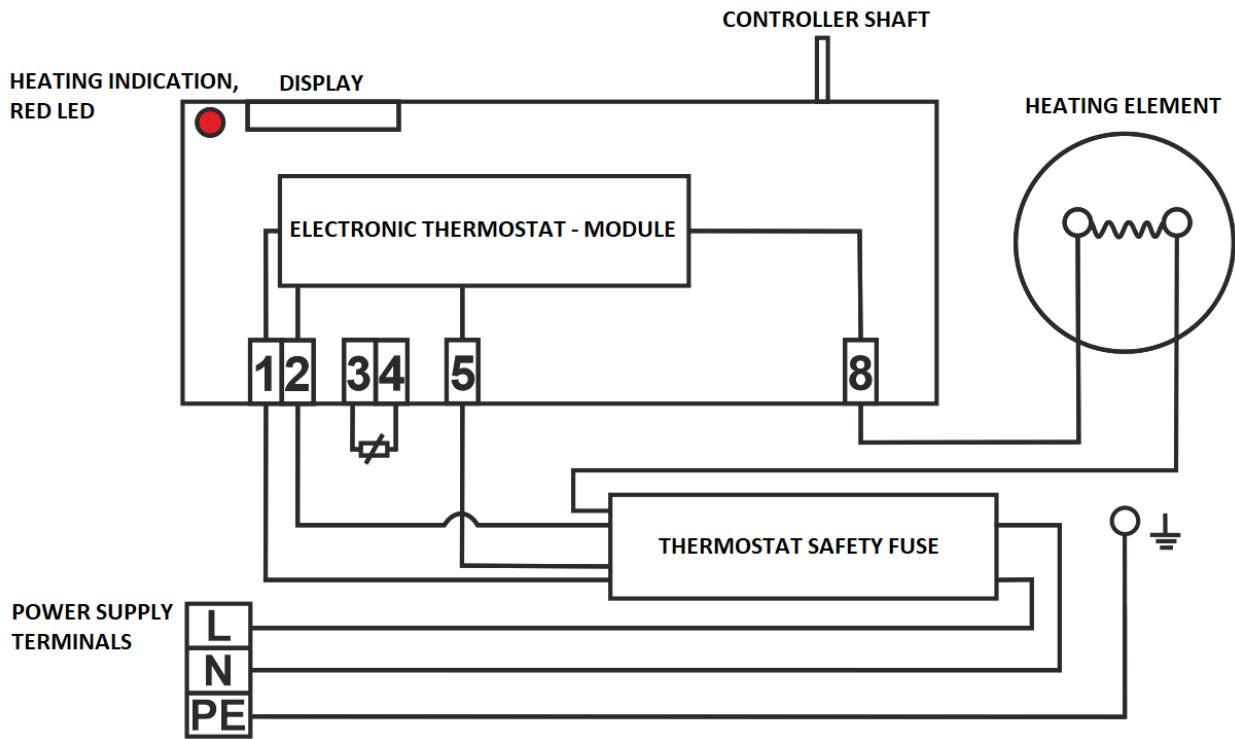

Figure 7
Factory connection must not be changed! (Figure 7). The degree of protection of electric parts of the heater is IP 44. The power input of electric element is 2.000 W (OKHE ONE/E 50 - 120), 1.100 W (OKHE ONE/E 30).
- The wiring diagram is attached to the heater on the side of the electric installation cover (Figure 7).